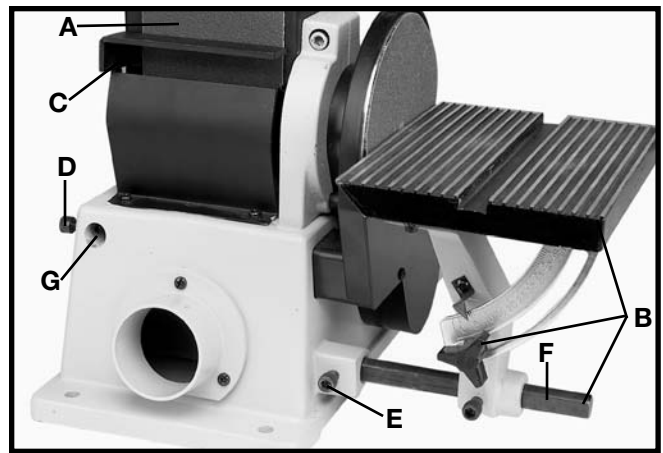

Fig. 36
When the sanding arm (A) Fig. 36, is used in the vertical position, the complete table assembly (B) can be moved from the disc unit to the belt unit as follows:
1. Remove the backstop (C) Fig. 36.
2. Locate and thread the 13/16" (20mm) long socket head screw (D) Fig. 36, into base casting as shown. **NOTE:** Only thread screw (D) partway into base casting.
3. Loosen screw (E) Fig. 36, and remove support bar (F) and table assembly (B) from disc unit. Insert bar (F) into hole (G) on belt unit and tighten screw (D).